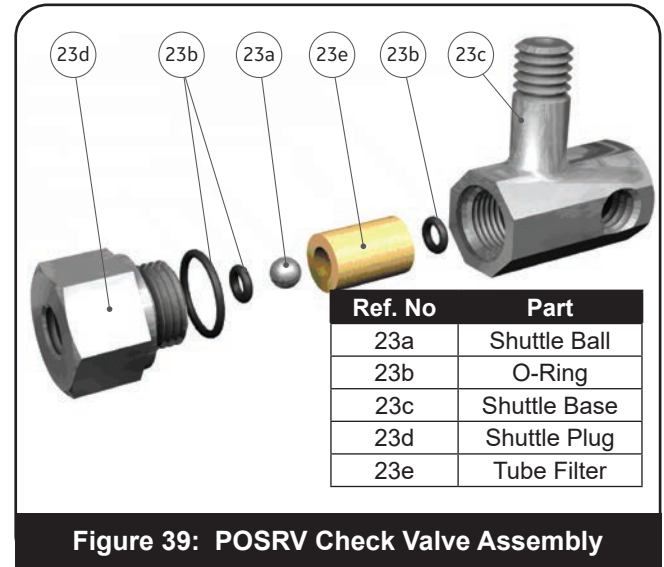
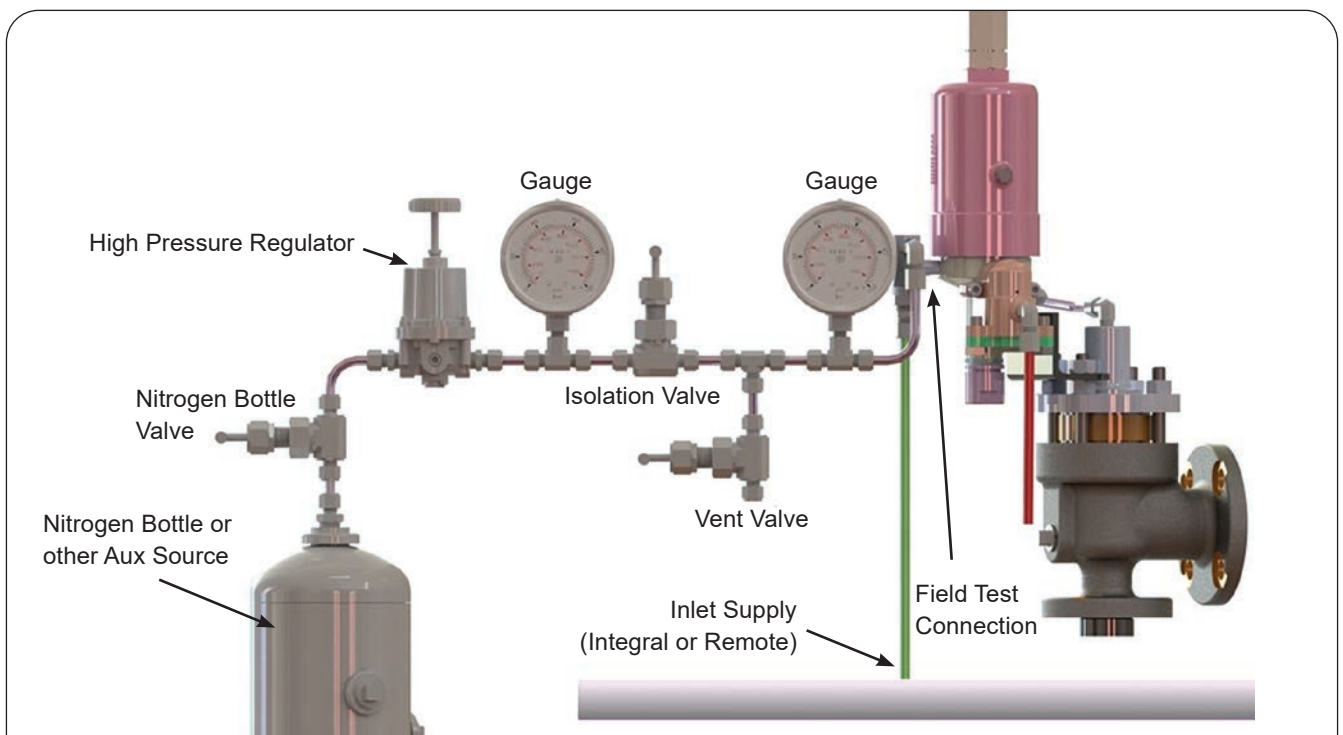

Figure 39: POSRV Check Valve Assembly
Figure 41: Typical Installation Arrangement with Auxiliary Supply
A 1/4" FNPT field test connection (Figures 39 and 40) is standard on all Consolidated pilot valve types, 39PV series and 39MV series. The field test connection along with an auxiliary pressure source can be used to provide a stable and constant pressure to the pilot valve and dome of the main valve. An internal check valve is present in the field test connection isolating the inlet media from the auxiliary pressure source media and at the same time, allowing the valve to open normally in the event of a system over pressurization while using the field test connection. **Figure 41** represents the recommended schematic for supplying auxiliary pressure to the POSRV. The "Connection to Valve Test Plug" mates with the 1/4" FNPT of the Field Test Connection.
2. Connect **Field Test Arrangement** to **Field Test Connection** (Figure 41).